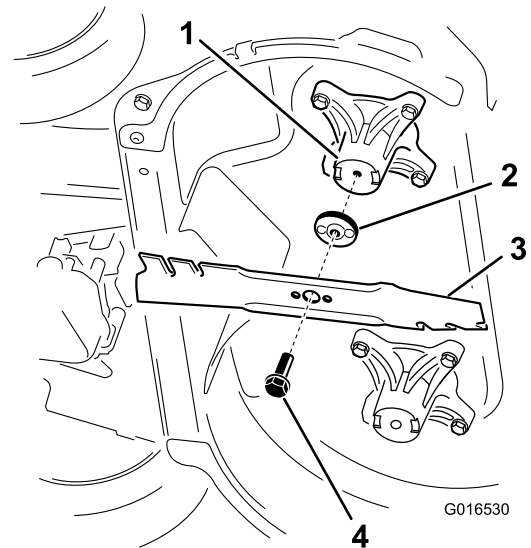

Figure 36
2. Remove each blade as shown in Figure 36.
1. Install the first blade so that it is horizontal, along with all mounting hardware as shown in Figure 36.